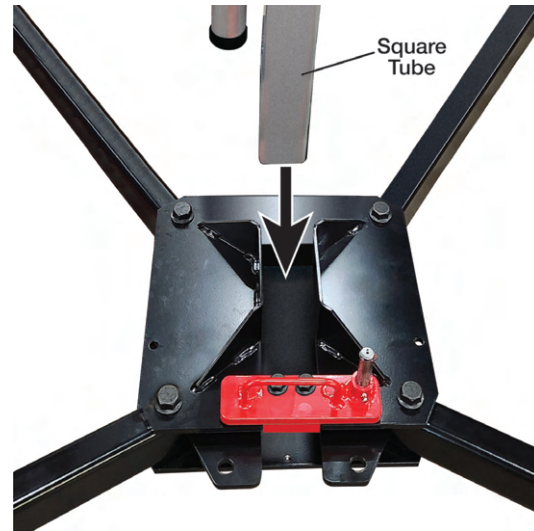

Figure 6-7: Square Tube to Base
9. Align the square tube of the mast assembly with the square tube mounting flanges and square tube mounting hole in the base (see Figure 6-7). Slowly lower the mast assembly, guiding the square tube between the square tube mounting flanges and into the square tube mounting hole. Continue lowering the mast assembly until the end of the square tube rests on the plate at the bottom of the square tube mounting hole.